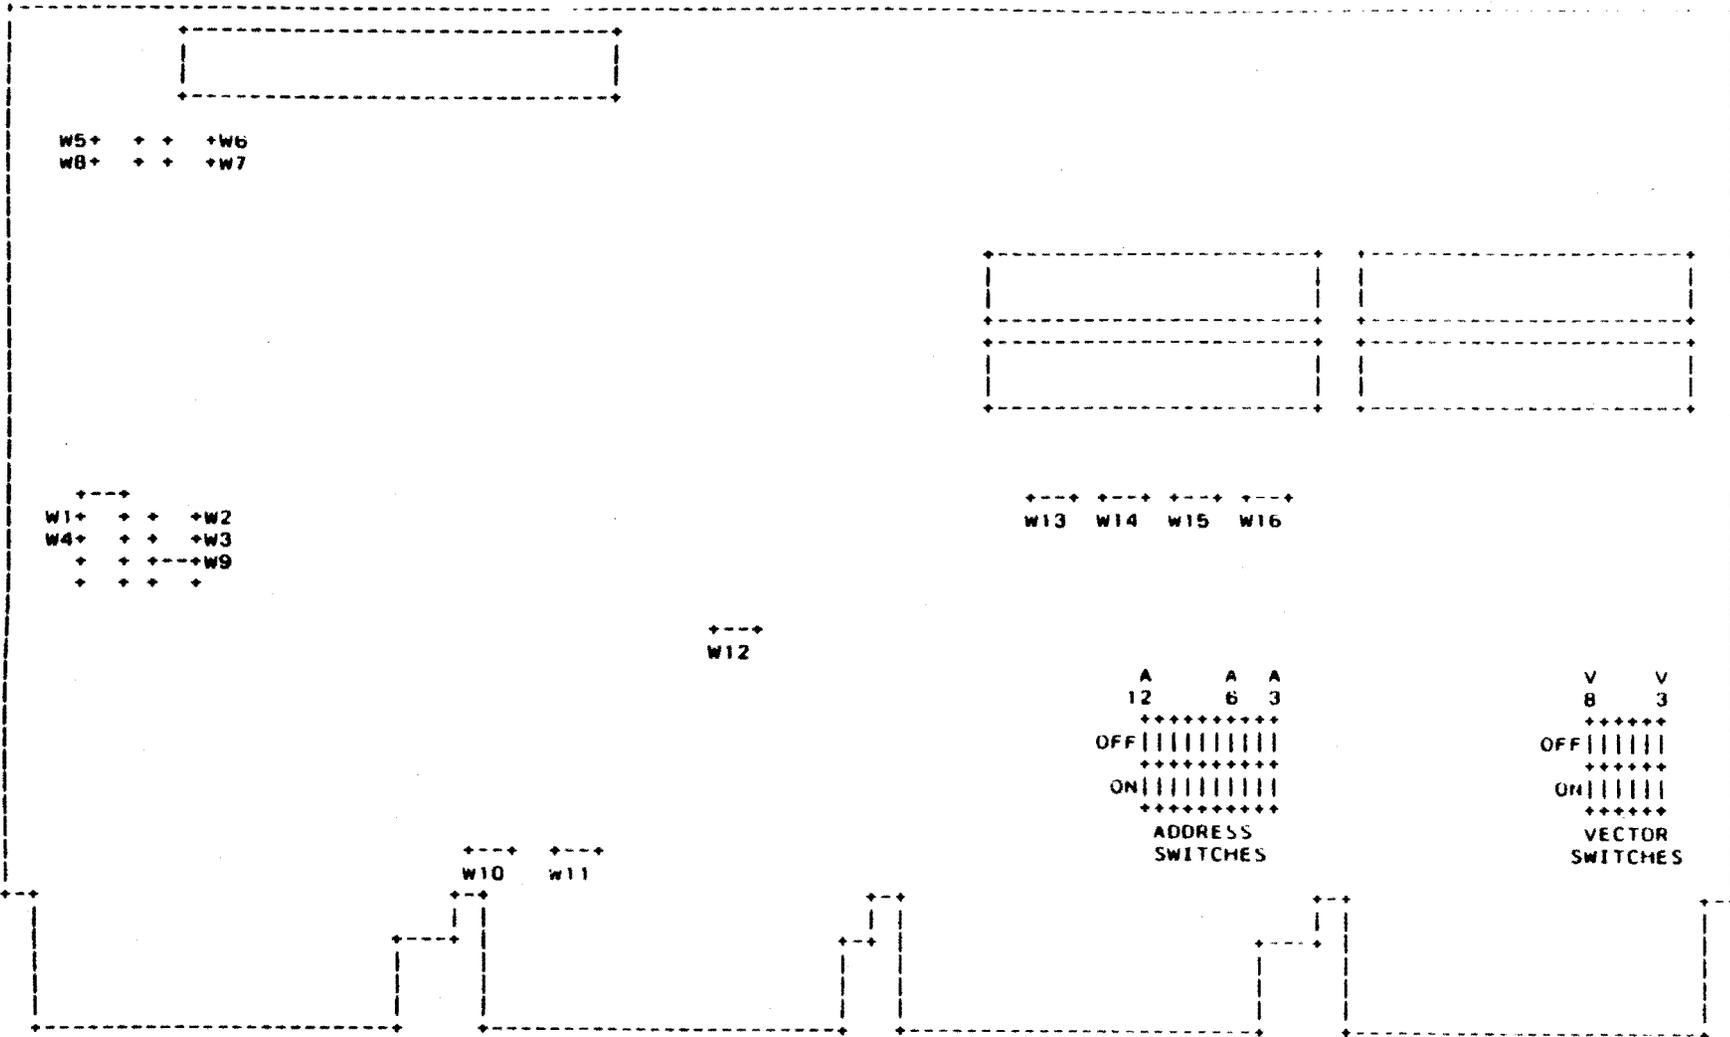

Figure 2-9: DZV11 Switches and Jumpers
2.8.2.1 Switches And Jumpers - As shown in Figure 2-9, the DZV11 contains a set of 10 and a set of 8 DIP switches, and 16 jumpers. The switches select the device starting address (Table 2-10) and floating vector (Table 2-11). The jumpers (Table 2-12) configure the module for various applications; factory set as shown, they are correct for most applications.